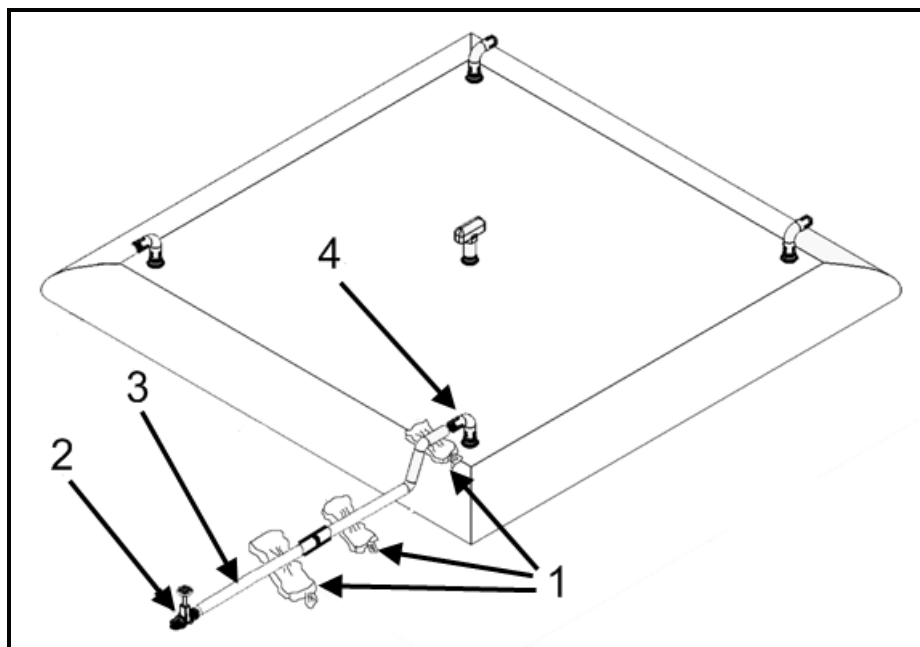

Figure 27. Elevated Connections for Easy Leak Detection.
1. Position filled sandbag(s) (Figure 27, Item 1) under hose (Figure 27, Item 3) near fill/discharge elbow (Figure 27, Item 4). This support will reduce stress on the tank fitting, the gasket in the hose coupling, and the coupling of fill/discharge elbow.
2. Position other sandbags (Figure 27, Item 1) or wood blocks on the ground near the hose connections so that a faulty or leaking connection is easier to see, and a fire hazard can be avoided.
5. Check the fill/discharge gate valve (Figure 27, Item 4) to verify closed position.
1. After performing adjustments and routine checks, attach the fuel source to the fill/discharge gate valve (Figure 27, Item 2).
2. Open the gate valve (Figure 27, Item 2)..
5. Close the gate valve (Figure 27, Item 2). when the tank is full. Table 4 provides approximate height to volume ratios.
6. Disconnect the fuel source from the gate valve (Figure 27, Item 2).
2. Attach an emptying source to the gate valve (Figure 27, Item 2)..
3. Open the gate valve (Figure 27, Item 2).
5. Close the gate valve (Figure 27, Item 2). when the tank is empty by rotating the handle clockwise.
7. Disconnect the emptying source from gate valve (Figure 27, Item 2)..